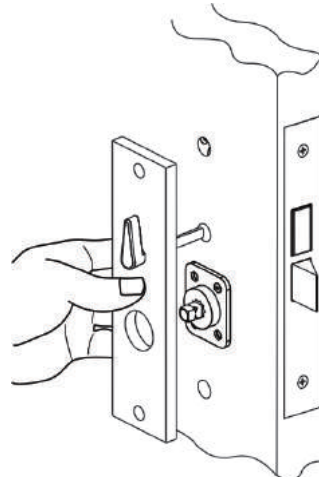

Figure 10
1. Place inside escutcheon flat against door. Align thumb turn (if provided) with slot in lock body. (Figure 10)